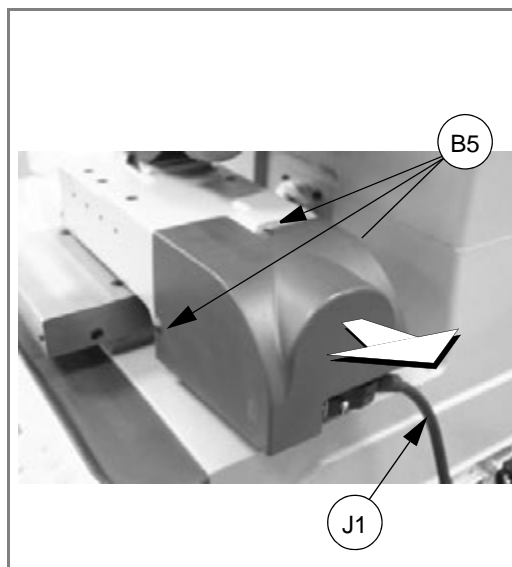

Fig. 80
- 3) disconnect the top axis connection wire (J1) from the carriage (fig. 80).
- 4) remove the top axis cover by unscrewing the 3 fixing screws (B5) and pull out in the direction shown (fig. 80).